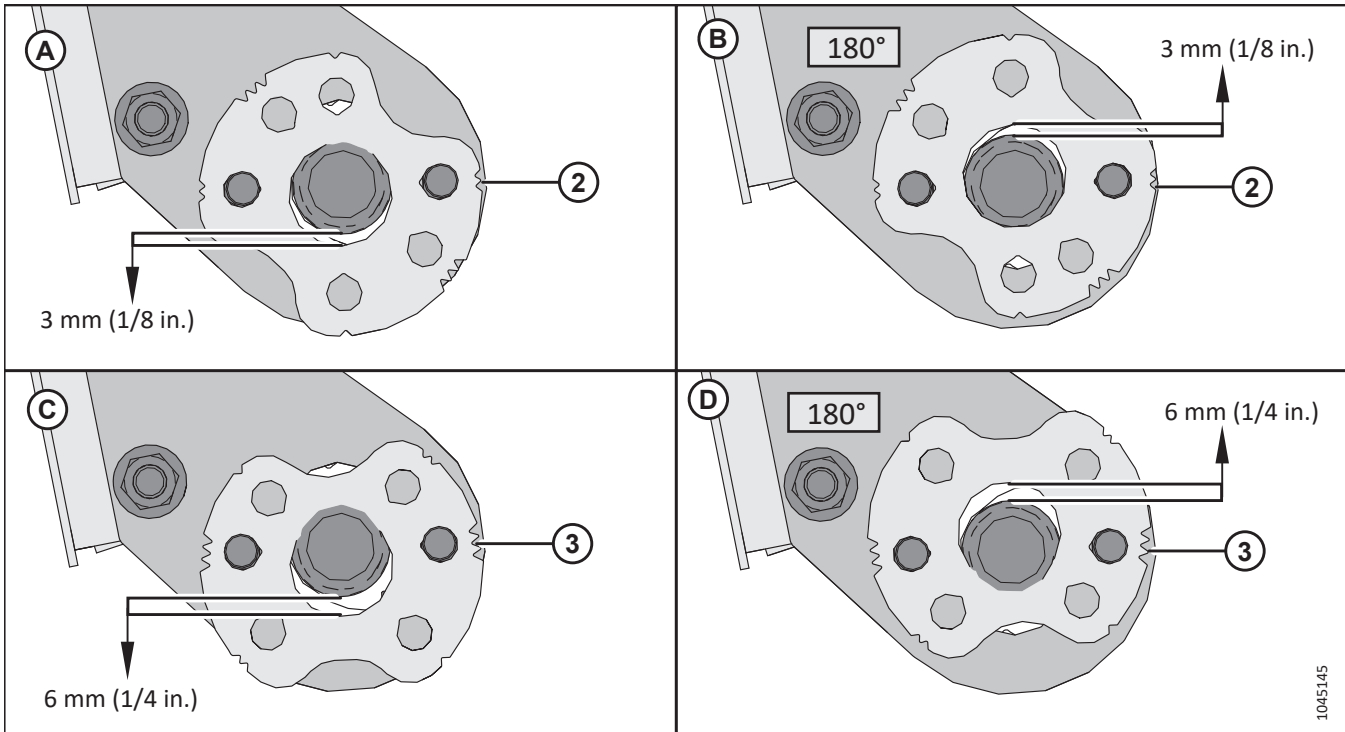

Figure 3.56: CR11 Adjuster Plate Positions
10. **CR11 combines:** If an adjustment is needed, note the position of locking pins compared to the center hole of the adjuster plates, remove nuts (C) and reposition adjuster plates (A) as needed. Refer to Figure 3.56, page 68.